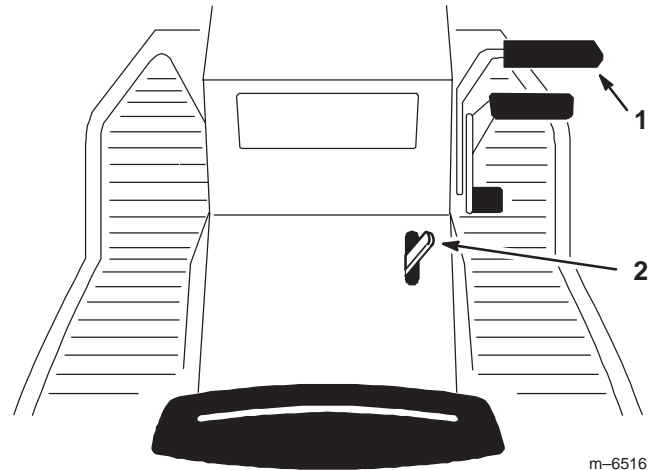

Figure 2
1. Push the brake pedal (Fig. 2) down and hold it in the depressed position.
2. Lift the parking brake lever (Fig. 2) forward and gradually take your foot off the brake pedal. The brake pedal should stay in the depressed (locked) position.
1. Push down on the brake pedal (Fig. 2). The parking brake lever should release.